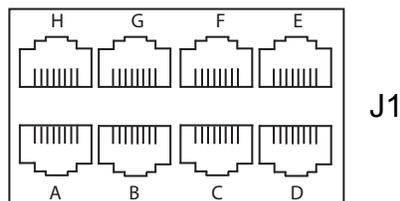

Figure 7-20 Eight EFDM RJ45 Ethernet Jacks
The eight **RJ-45** ethernet jacks (J1) on the EFDM (Figure 7-20) are used to connect the TSW PC to its Remote Client PCs. If a model with fiber optic ports is used, only RJ-45 jacks 1 through 4 are used. The fiber optic SC connectors located on the EIS6-100T/FC(S) switch are used to connect the fiber optic cables to the fiber optic ports. All of the network connections should pass through the knock-out hole 1.
The Ethernet port numbering on J1 is shown in Figure 7-20